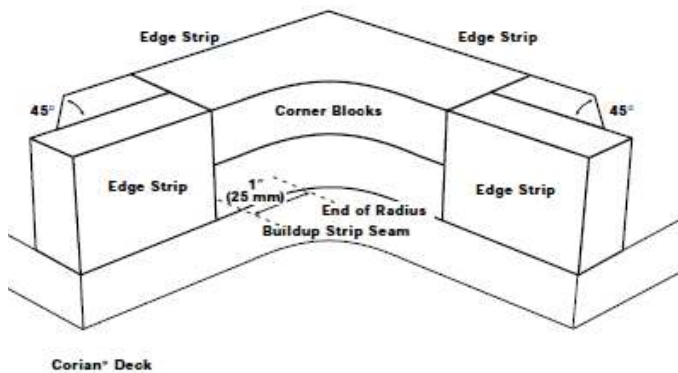

Figure L-1
4. Seam all pieces in place and together, and finish using the standard procedures described in *DuPont™ Corian® Solid Surface Fabrication/Installation Fundamentals – Finishing and Polishing* (K-25298). See Figure L-1.